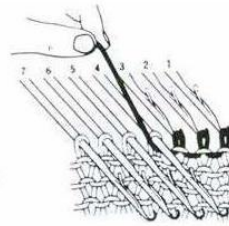

Fig.57
- (c) **Pass** the yarn under the end needle in position (E) nearest the needles in position (B), leaving it over the other needles in position (E). (Figs.57 & 58)